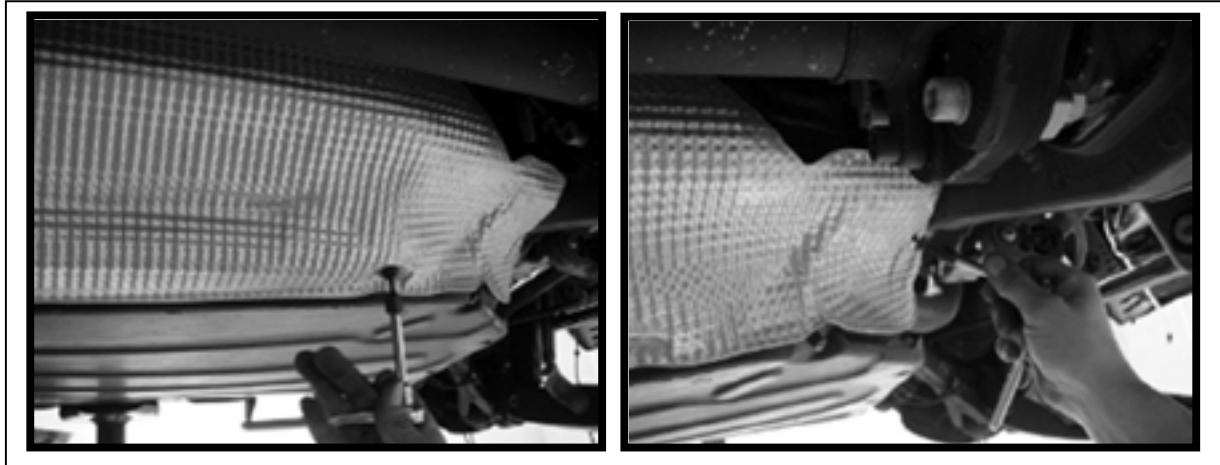

FIGURE 10-17
20.0 LOOSEN BOLTS AND REMOVE HEAT SHIELD. (FIGURE 10-17)